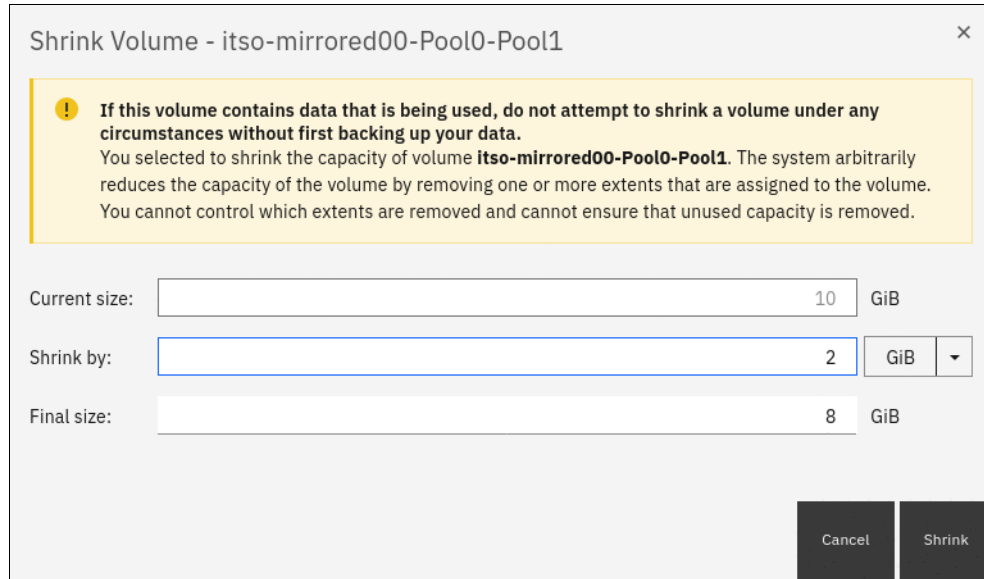

Figure 6-41 Specifying the size of the shrunk volume
- Specify either **Shrink by** or **Final size** (the other choice is calculated automatically), as shown in Figure 6-41 on page 347.